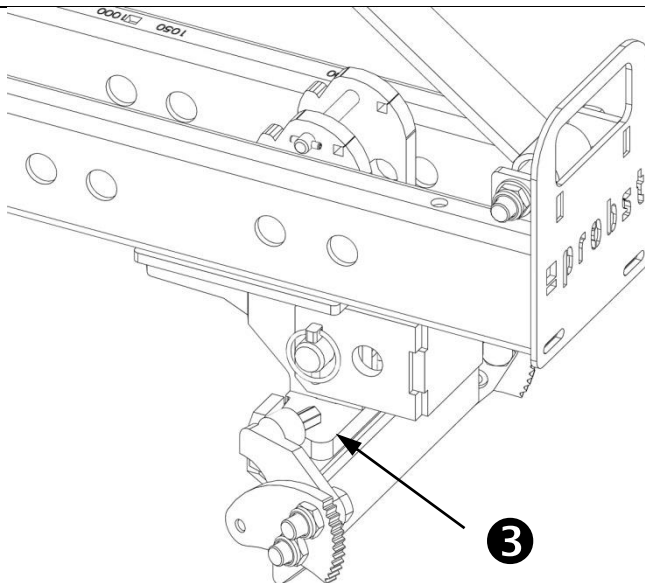

Fig. 12
- Position the movable claw or movable suspension (3) at the corresponding nominal width (NW), see Fig. 12.